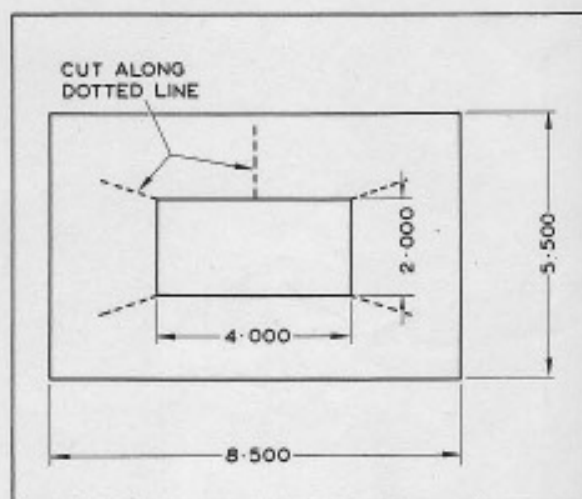

Fig. 6.
4. Instrument Sideplates - Fitment of the felts UW-1930 to the Instrument Sideplates 373/164 and 373/165, requires removal of both cubby boxes, the removal of which was dealt with in paragraph 3. Cut a rectangle 4" x 2" from each felt and slot the corners diagonally as shown in Fig. 6. Cut through from an outer edge to the hole in the centre, thus enabling the felt to be passed over the wiring and fixed in position with the inner edges of the felt wrapped over the edges of the sideplate and stuck securely with 'Bostik' A.